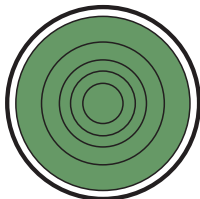

Figure 60. Main Circuit Breaker ON Lamp (ON/GREEN)
9. Verify that the **Main Circuit Breaker ON lamp** (Figure 60) is illuminated (**GREEN**). This indicates that the **circuit breaker contacts are closed** and power has been sent to the load.